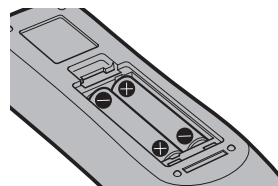

Fig. 2
- 2) Insert the batteries and close the cover (insert the  side first). (Fig. 2)